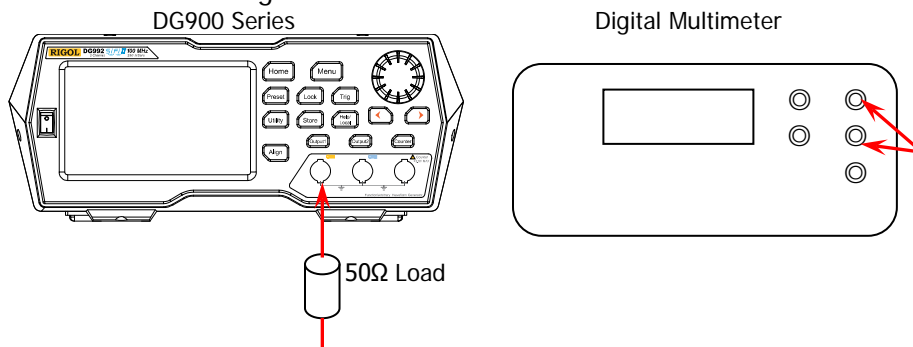

Figure 2-2 Connect DG900 and the Digital Multimeter via a 50Ω Load
1. Make sure that the environment temperature is between 18°C and 28°C and DG900 has been warmed up for at least 30 minutes. Connect the 50Ω load to the channel output terminal (take CH1 as an example; the test method is also applicable to CH2) of DG900; connect the 50Ω load and the voltage input terminals of the digital multimeter using a BNC-Dual banana plug connecting cable as shown in Figure 2-2.
- Make sure that the environment temperature is between 18°C and 28°C and DG900 has been warmed up for at least 30 minutes. Connect the 50Ω load to the channel output terminal (take CH1 as an example; the test method is also applicable to CH2) of DG900; connect the 50Ω load and the voltage input terminals of the digital multimeter using a BNC-Dual banana plug connecting cable as shown in Figure 2-2.